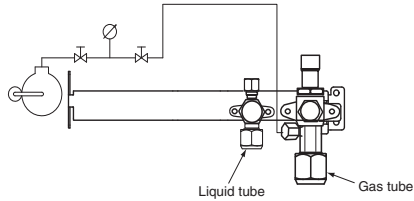

Fig. 9-2
- (6) Both the gas and liquid tube service valves are open. If not, open them now. (Fig. 9-2)